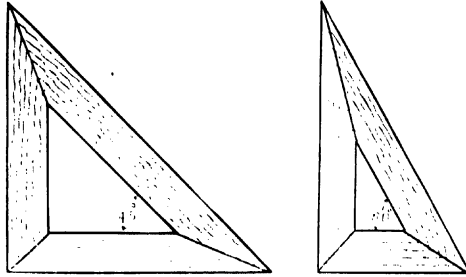

Fig. 4.
**Set-squares.**—These are shown in Fig. 4. They are used for